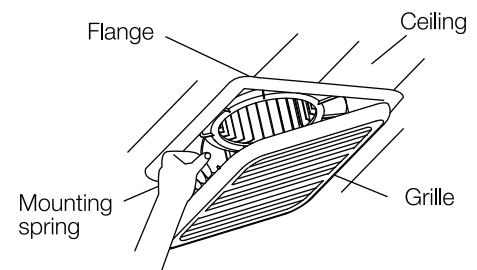

Fig. 5
6. Pinch mounting springs and insert into narrow rectangular slots inside the fan housing next to the fan motor (Fig. 5).